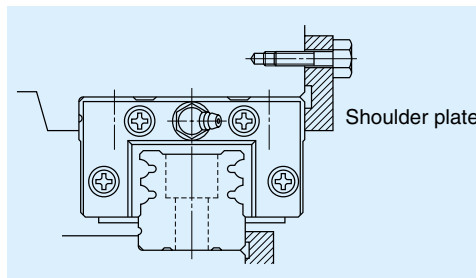

Fig. II-9-17 Pressing ball slide from sideways
- ① Arrange the ball slides so that locations match to their mounting section of the table. Carefully place the table on the ball slides. Temporarily tighten all bolts.
- ② While pressing the table from sideways, further tighten the bolts which secure the ball slides on the reference side, so the table shoulder and the ball slide's mounting datum face are sufficiently tightly pressed. If a shoulder plate is provided, first tighten the bolts of the plate, then further tighten the bolts to the ball slides (Fig. II-9-17).